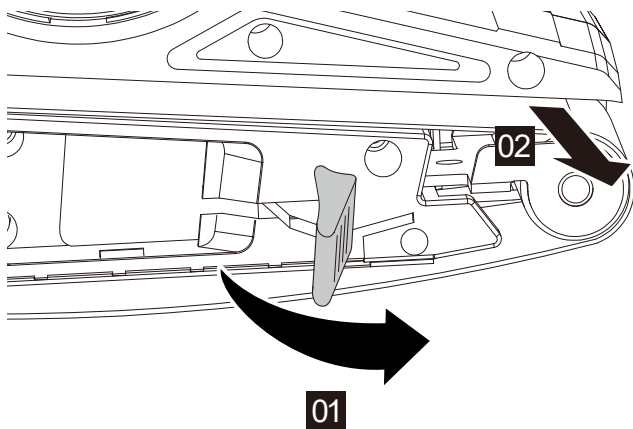

Figure 1-1
1. CHANGING A SANDING BELT (SEE FIG. 1-1 & 1-2)